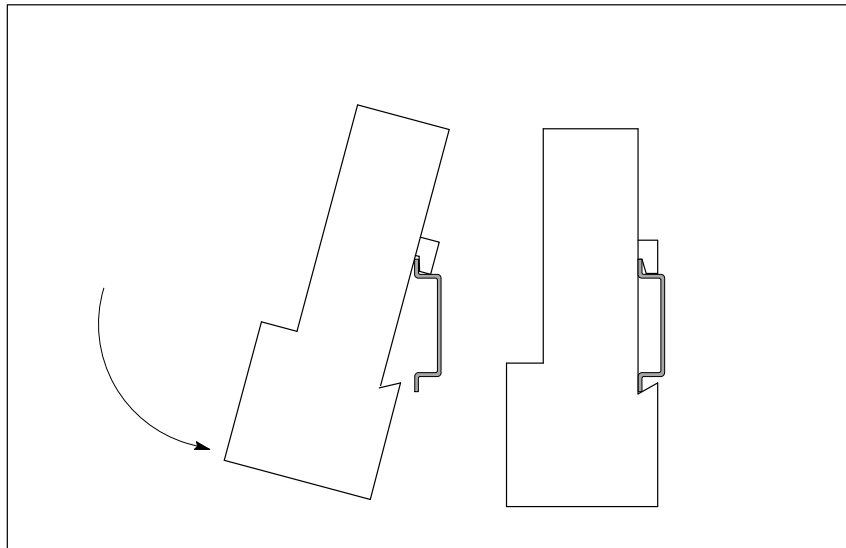

Figure 2-4 Snapping the Terminal Block onto the Rail
3. Position the terminal block on the 35 mm rail from above, and swing it down. The terminal block snaps onto the rail (see Figure 2-4).